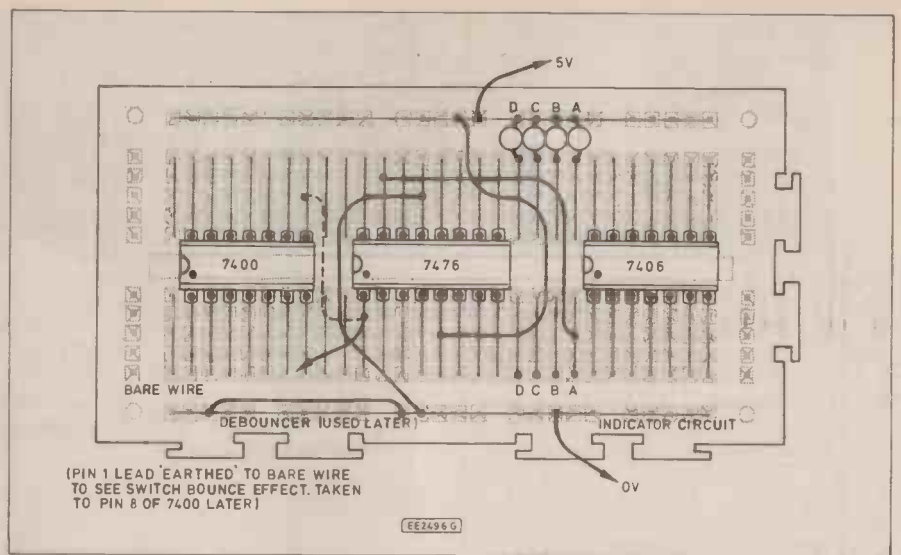

Fig. 5.9. Testing a J-K flip-flop.
**T** No, they're not. What I'd like you to do is to leave the "old" 7400 i.c. where it is, already wired up as an S-R bistable. Then build up the 7476 circuit alongside it on the breadboard thus (Fig. 5.9). Again, we'll only take the Q output to an indicator for now.